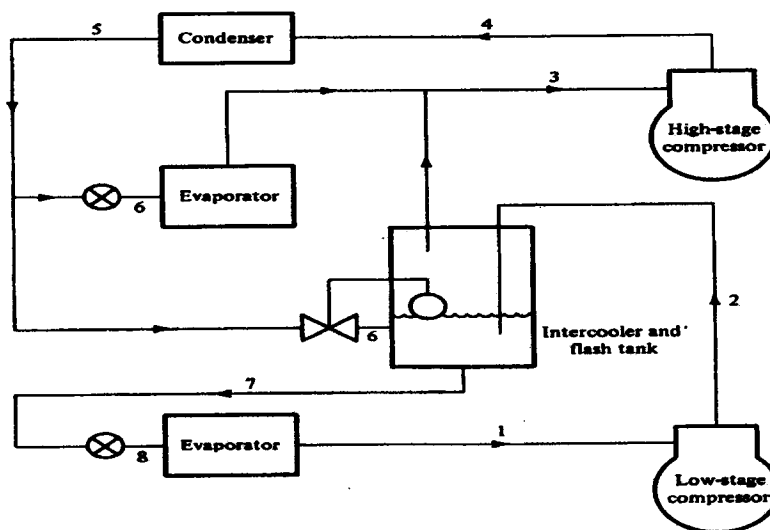

Figure 2 Two compressors and two evaporators operating with intercooling and flash-gas removal
- (2) Explain how to avoid a potential motor overload during a pull-down of temperature. (5%)
5. A two-stage ammonia system using flash-gas removal and intercooling operates on the cycle shown in Fig. 2. The condensing temperature is 40°C. The saturation temperature of the intermediate-temperature evaporator is 0°C, and its capacity is 200 kW. The saturation temperature of the low-temperature evaporator is -40°C, and its capacity is 300 kW. Calculate the power required by the compressors and COP of the system? Assume that refrigerant enters the low-stage and high-stage compressors as saturated vapor and leaves condenser without subcooling. (30%)